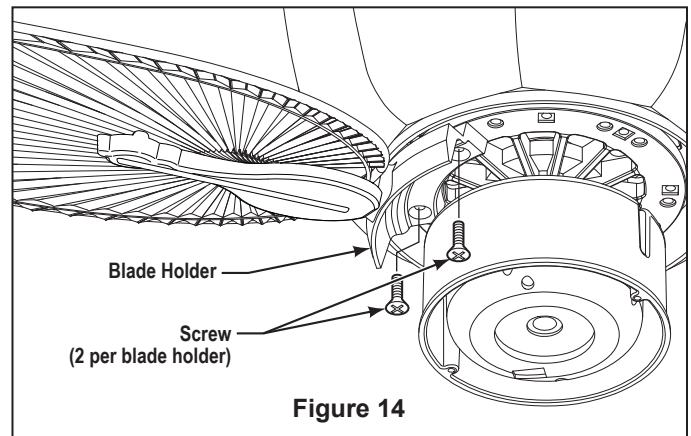

Figure 14
8. Make sure the screws securing the blade holders to the flywheel are tight and that the blade holders are properly seated on the flywheel. (Figure 14)